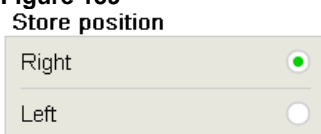

Figure 160
- **Store position:** Allows the **Store** button to be placed on the **Right** or **Left** side of the screen for user preference in operation (Figure 160).